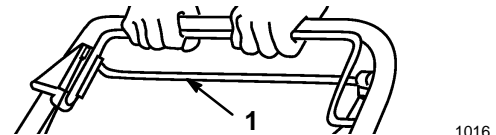

Figure 12
2. To disengage the self-propel drive, release the self-propel bail (Fig. 12), then push the mower forward manually at least 1 in.